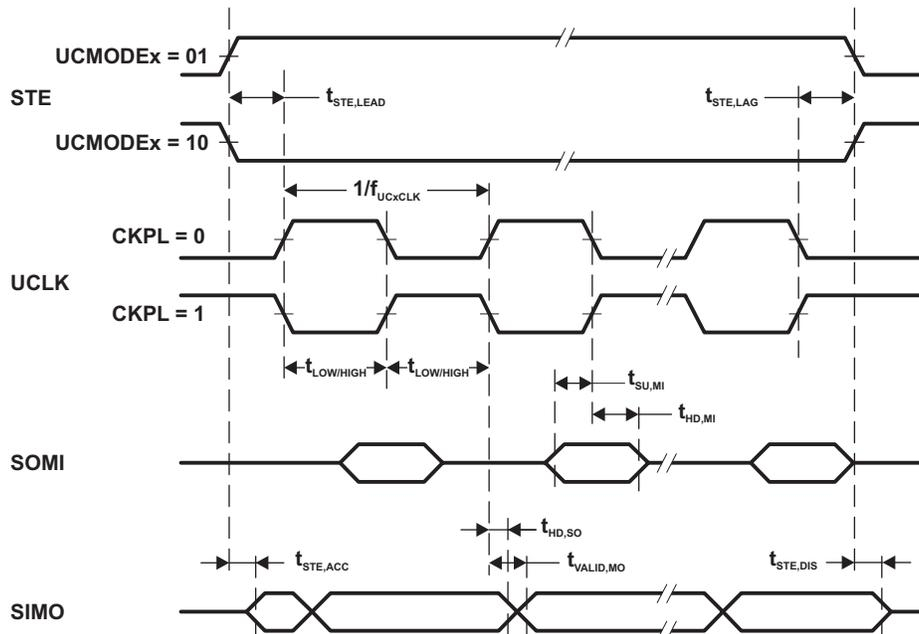
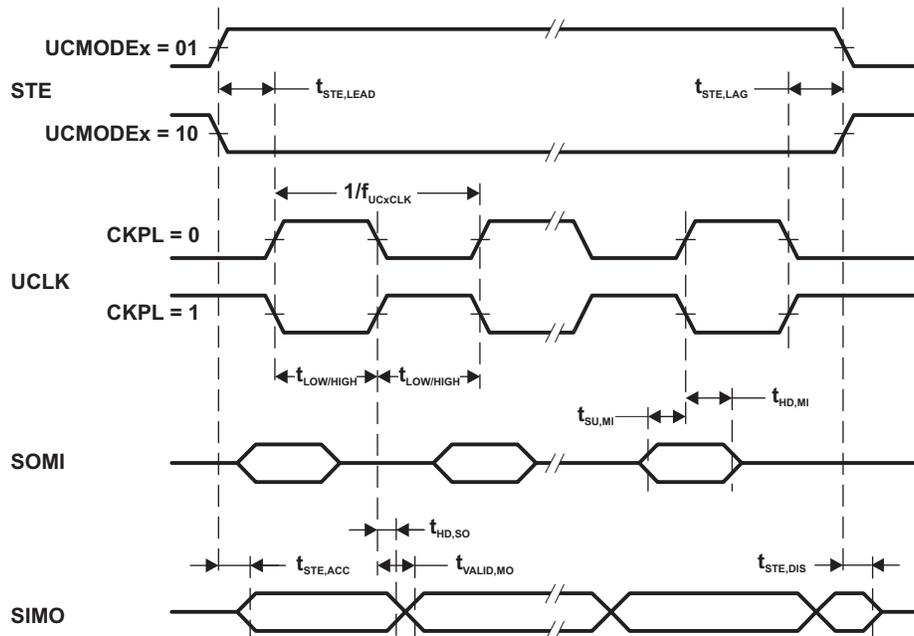

Figure 15. SPI Master Mode, CKPH = 0
Figure 16. SPI Master Mode, CKPH = 1
- (2) Specifies the time to drive the next valid data to the SIMO output after the output changing UCLK clock edge. Refer to the timing diagrams in Figure 15 and Figure 16.
- (3) Specifies how long data on the SIMO output is valid after the output changing UCLK clock edge. Negative values indicate that the data on the SIMO output can become invalid before the output changing clock edge observed on UCLK. Refer to the timing diagrams in Figure 15 and Figure 16.